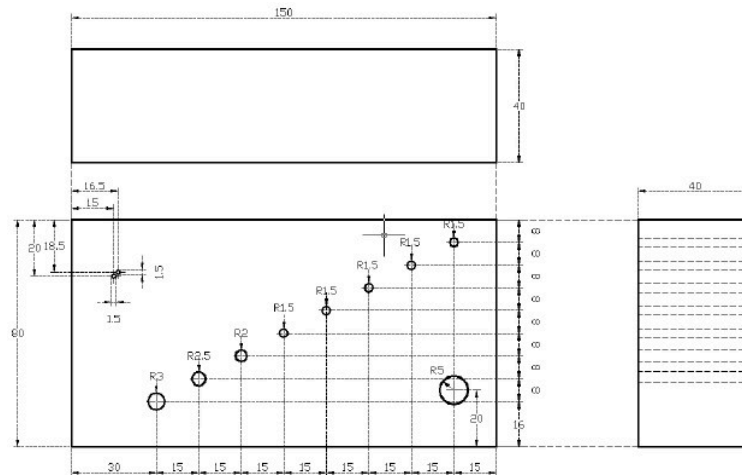

Fig. 8: Engineering drawing of the test block
- The "measure ultraecho software" program shows the reflected wave as a peak. Adjust the transmitter and receiver amplifier settings until the peak height maximum covers at least 75% of the window height. The amplifier settings are displayed in figure 8.